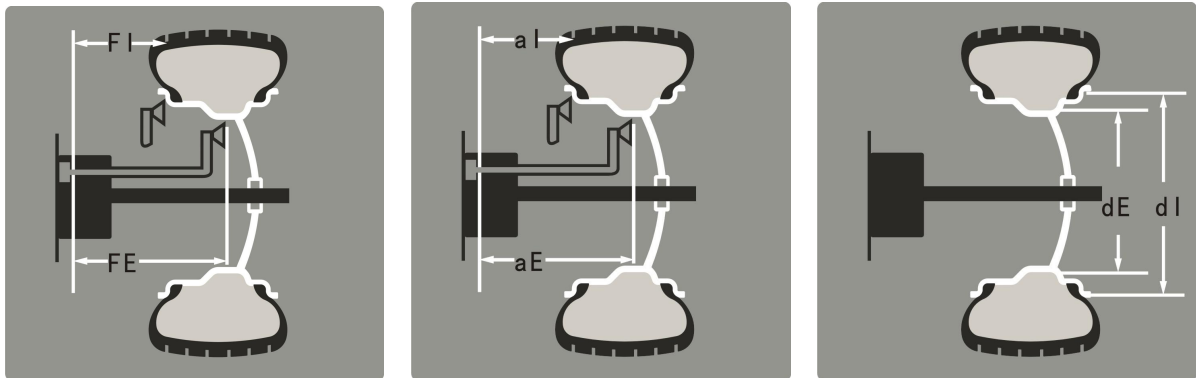

Fig. 9
- Set aI value: Pull gauge out, first to touch position of FI (**Fig 9**) to measure aI value, press **a+** and **a-** to input aI value.
- Set aE value :Then touch position of FE (**Fig 9**) to measure aE value, press **b+** and **b-** to input aE value.